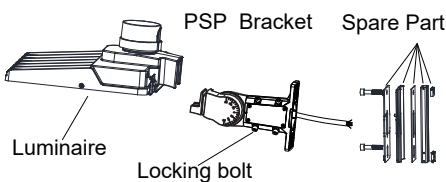

Figure 4
Step 1: Remove the spare parts from PSP bracket, Snap the light fixture into the PSP bracket and lock the screws. (Figure 4)